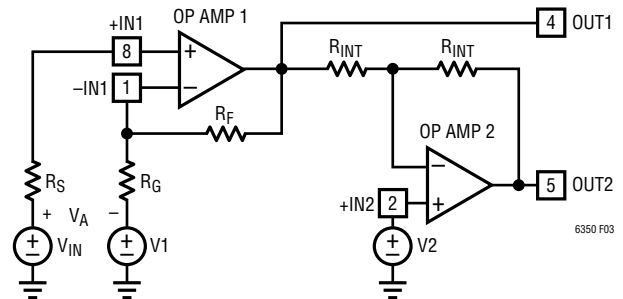

Figure 3. General Configuration
Because the input op amp presents its output and both its inputs to LT6350 pins, alternative configurations are possible. Consider the general configuration shown in Figure 3.
The simple connection described in the Basic Connections section can be seen as a special case of the general circuit in Figure 3 where  $R_F$  is a short circuit,  $R_G$  is an open circuit, and the voltage at  $V_{IN}$  is centered around the voltage  $V2$ . If differential gain greater than two is needed, the values of  $R_F$  and  $R_G$  can be adjusted in accordance with Equation (2). Additional information about feedback networks is given in the next section and in the Input Amplifier (Op Amp 1) Feedback Components section.
Although the previous examples have assumed the input signal is applied at +IN1, it is also possible to use the input op amp in an inverting configuration by fixing the voltage  $V_{IN}$  and applying the input signal at  $V1$  of Figure 3. Using the input op amp in the inverting configuration fixes its input common mode voltage at the voltage  $V_{IN}$ , which allows the input signal at  $V1$  to traverse a swing beyond the LT6350 supply rails. To avoid unwanted differential offsets in this configuration  $V_{IN}$  should be chosen such that:
When feedback resistors are used to set gain in op amp 1, care should be taken to ensure that the pole formed by the feedback resistors and the total capacitance at the inverting input, -IN1, does not degrade stability. For instance, to set the LT6350 in a differential gain of +4,  $R_F$  and  $R_G$  of Figure 3 could be set to 1k $\Omega$ . If the total capacitance at -IN1 (LT6350 plus PC board) were 3pF, a new pole would be formed in the loop response at 106MHz, which could lead to ringing in the step response. A capacitor connected across the feedback resistor and having the same value